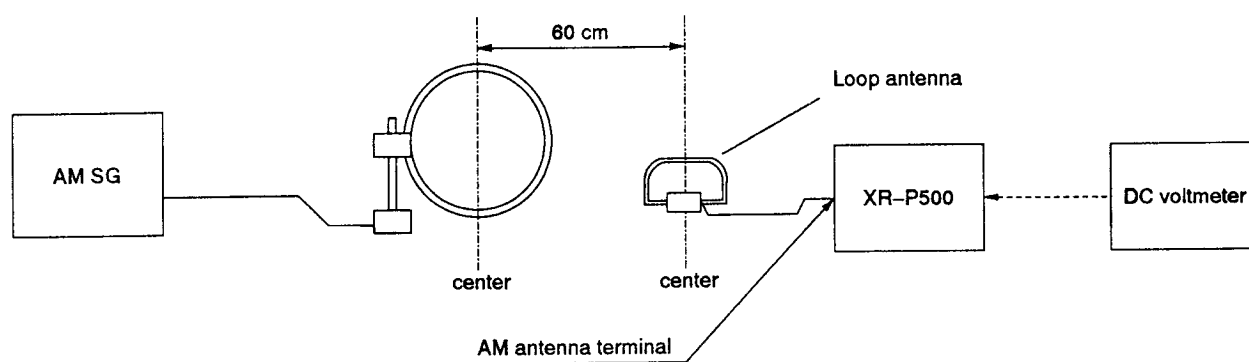

Fig. 8-2. AM Adjustment Connection Diagram
- Connect as shown in Fig. 8-2.
- Adjustment points and test points are shown in Fig. 8-2.